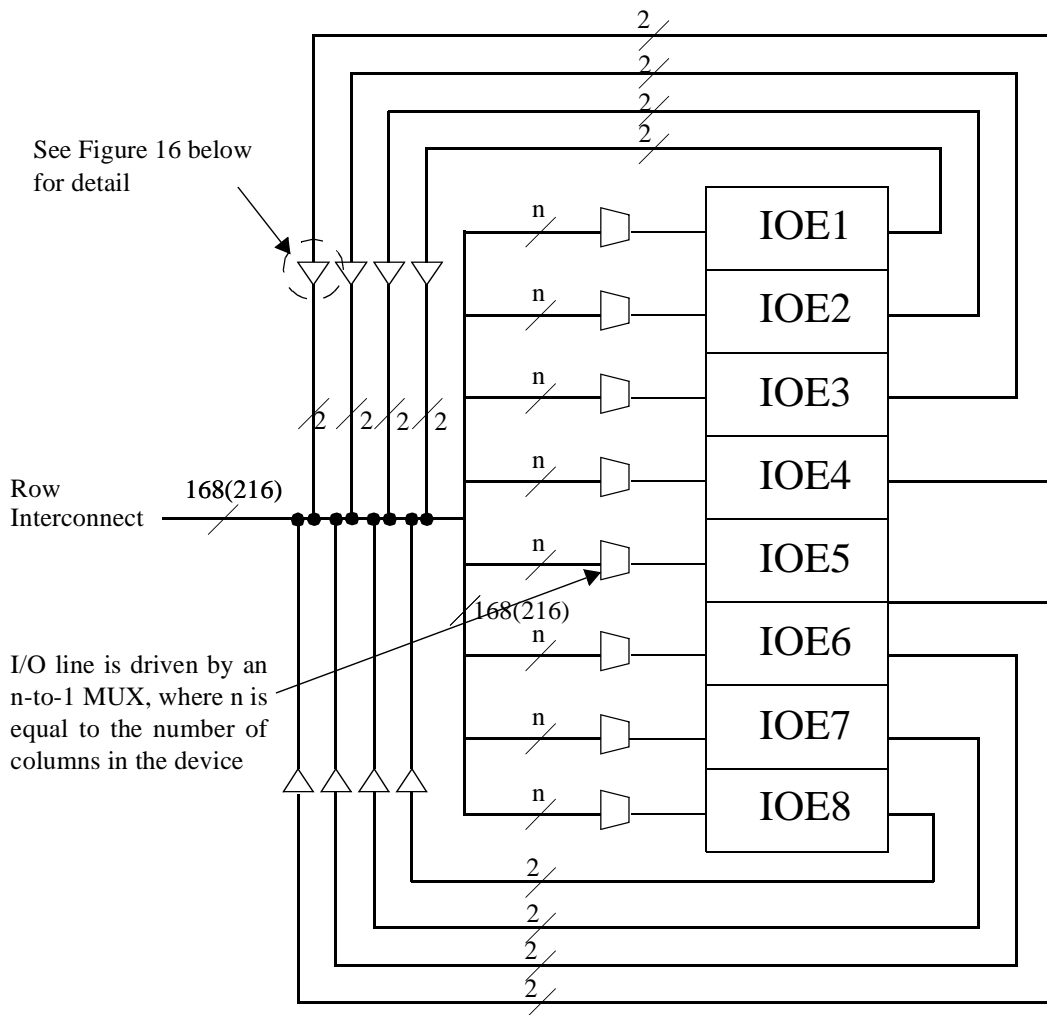

Figure 15 : Flex 8000 row to IOE connection
- Figure 15 shows the row to IOE connections. Inputs from an IOE can drive two separate row channels. When an IOE is used as an output the signal is driven by an n-to-1 multiplexer that selects the row channel. The size of the multiplexer varies with the number of columns in a device– e.g. some devices have 21-1 multiplexer, others a 27-1 multiplexer. Note that each pin has a limited row interconnect – cannot interconnect to an arbitrary row channel.